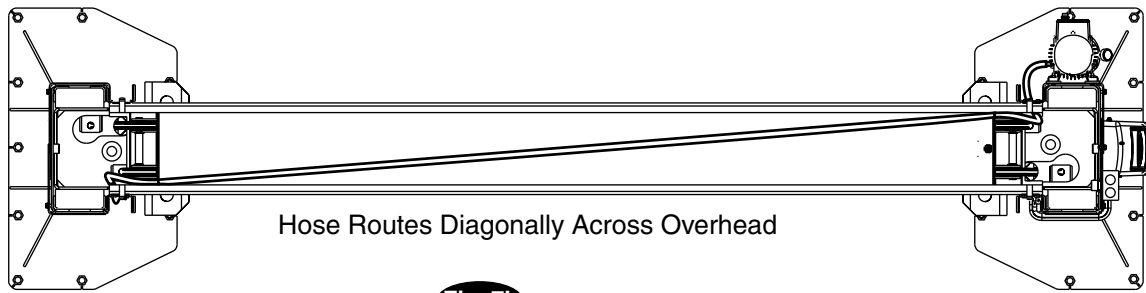
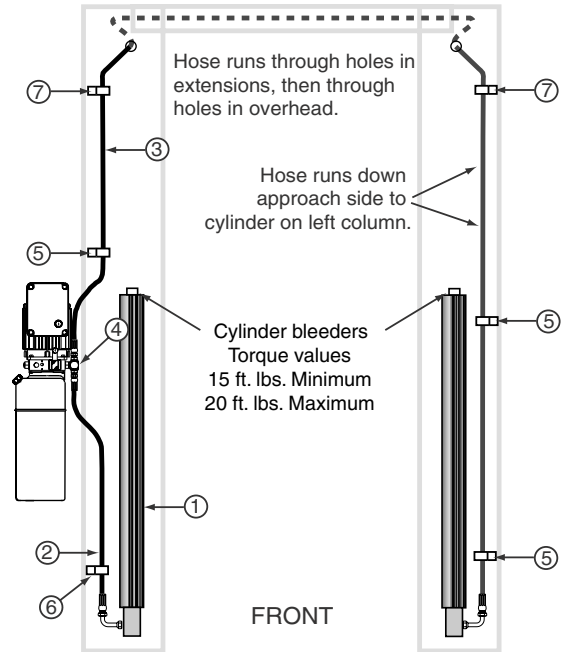
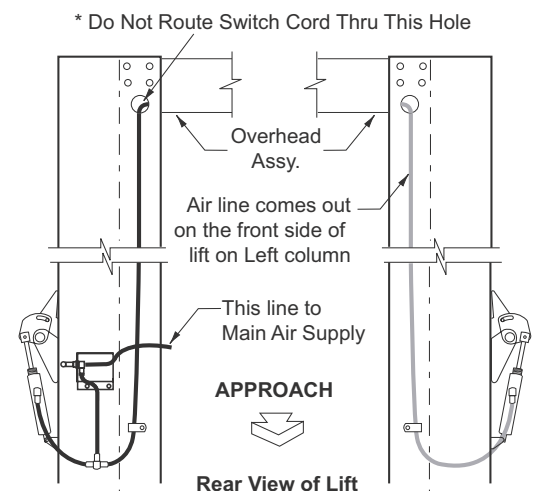

Fig. 7b
Fig. 9
Fig. 14
NOTE: Route Power Unit hose inside columns using slots provided at column base, Fig. 9. Route Overhead Hose in column channel on outside of column, Fig. 9, Fig. 14. Overhead hose goes through holes beside sheaves in the overhead weldment, Fig. 7b, Fig. 9.
- K) Install air line from union tee to left column air cylinder. Fig. 14.
14. Oil Filling & Bleeding: Use Dexron III ATF, or Hydraulic Fluid that meets ISO 32 specifications. Remove fill-breather cap, Fig. 8a. Pour in (8) quarts of fluid. Start unit, raise lift about 2 ft. Open cylinder bleeders approx. 2 turns, Fig. 9.